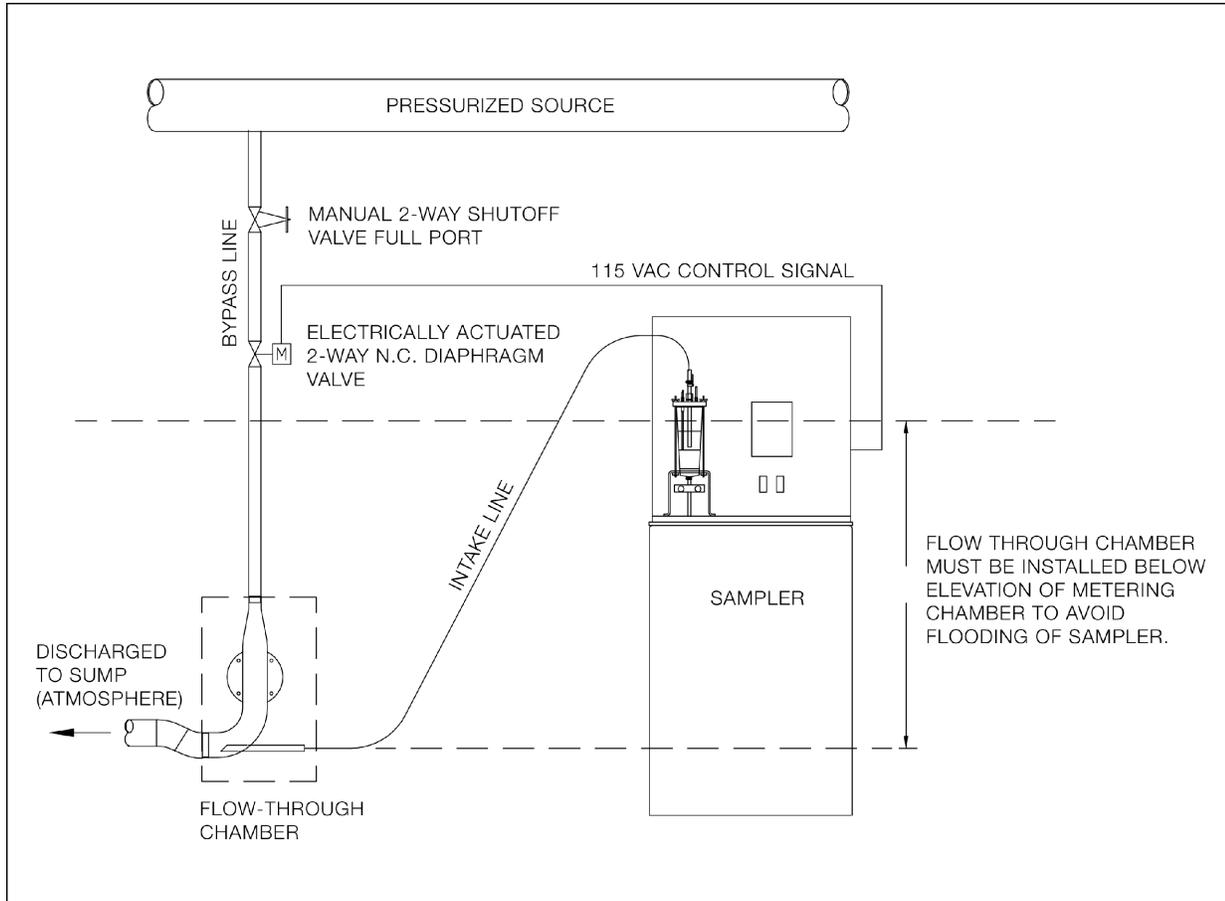

FIGURE 1-5. Flow Through Chamber for Pressurized Source
3. **Flow-Through Chamber.** Divert liquid from the pressurized line to a “wet well” or secondary pool, and attach this component to it, as shown in FIGURE 1-5.